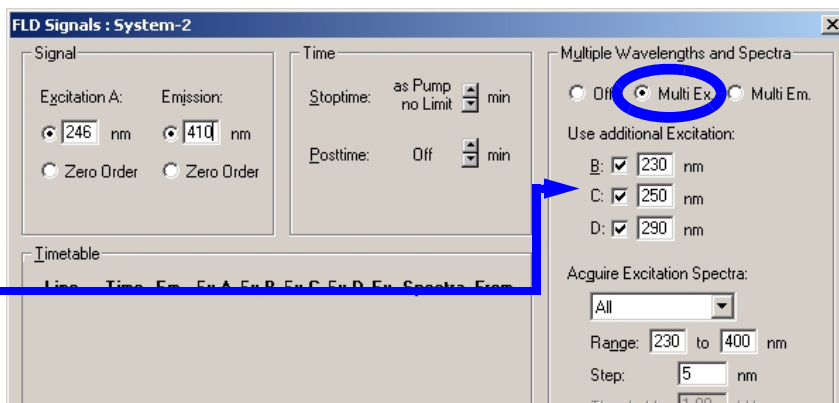

Figure 25 FLD Parameters
- Set the FLD setpoints according to Figure 25 (on the local Control Module G1323B, this information is split across separate screens).